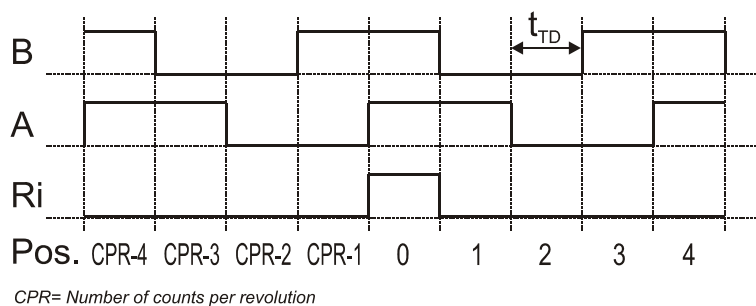

Fig. 6: Timing diagram for incremental output
** See Fig. 6. Figures are for highest values of oscillator frequency ($f_{osc}=83$ MHz).
Fig. 6 shows the timing diagram of A, B and Ri signals with CW rotation of the magnet and positive counting direction. B leads A for CW rotation. The counting direction can be changed by swapping the A and B signals or by programming the EEPROM with negative counting direction settings.